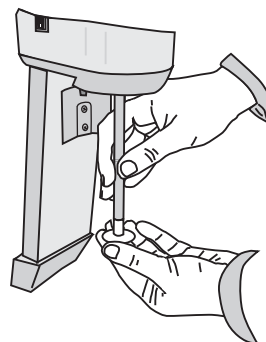

Fig. 17
! **Before first use:** rinse all of the parts that will have contact with food in running water i.e.: the agitator and the cup (to disassemble the various parts see Fig. 17).
- 9 To change the agitator, hold the spindle still with one hand and use your other hand to unscrew the agitator (Fig. 17).